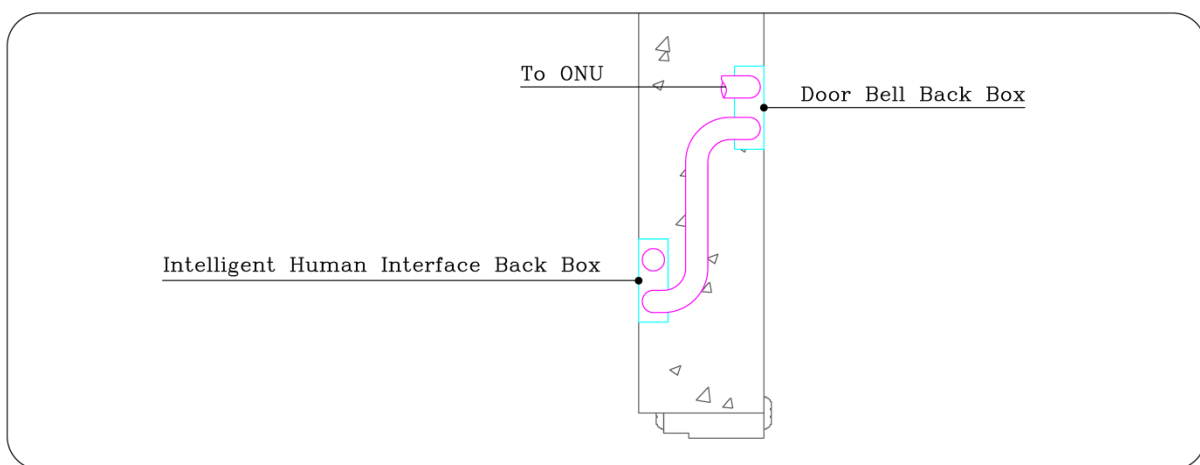

Figure I.1.9: Connection between the Smart Home Keypad and the Doorbell
- 1 No. 20mm conduit with Cat.6 cable should be provided between the doorbell switch and the nearest smart home keypad as shown in Figure I.1.9.